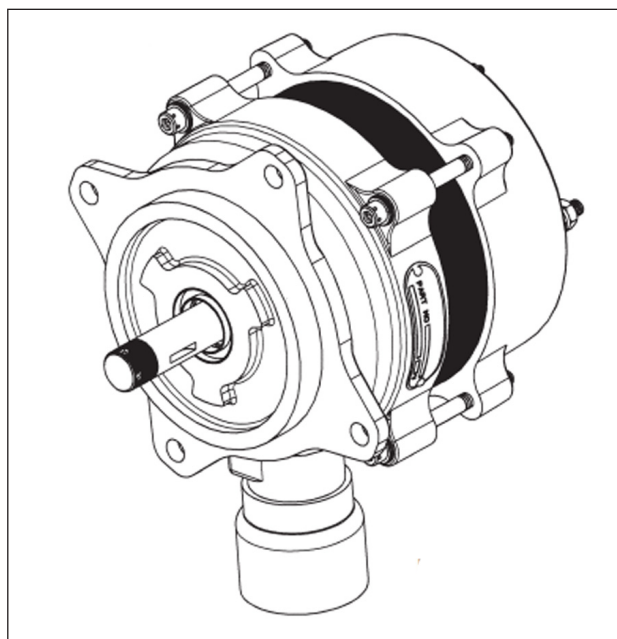

Figure 2.1 Typical Front View
- (1) Hartzell Engine Technologies (HET) small frame, gear and belt driven alternators have been designed and constructed to provide extended periods of trouble-free operation with a minimum amount of maintenance. They are intended to withstand the vibration and extreme temperature changes encountered in aircraft applications. Basic features are identified in Fig. 2.1 thru 2.10 below.